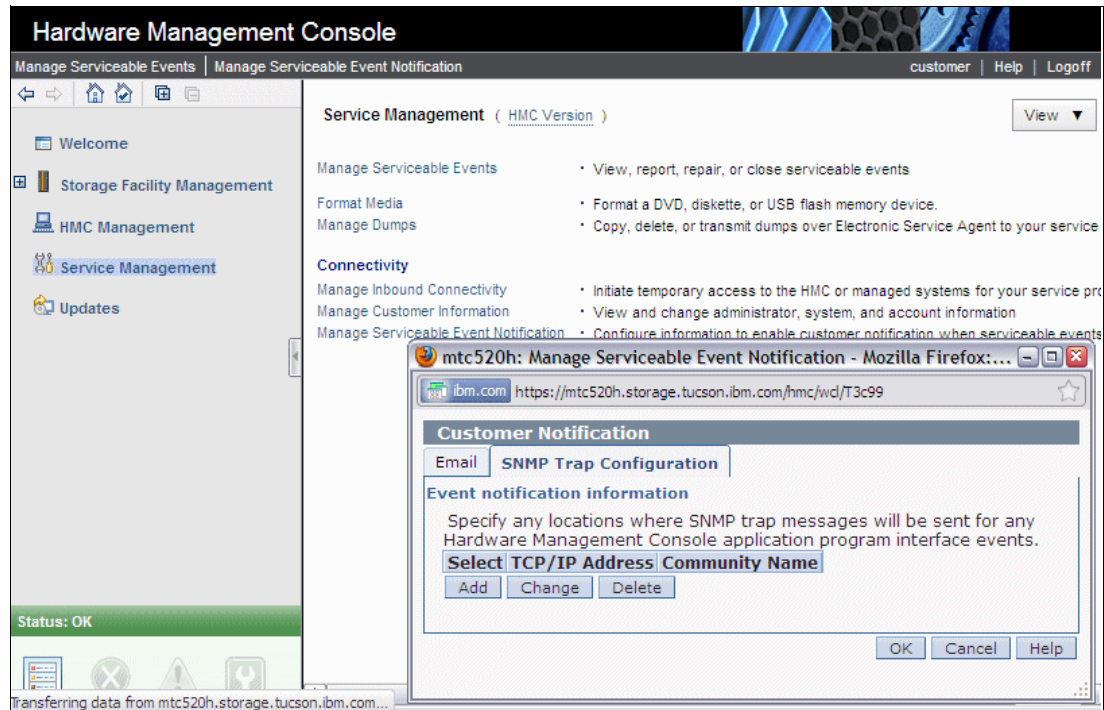

Figure 16-3 HMC Management Serviceable Event Notification
2. Select **Management Serviceable Event Notification** (Figure 16-3 on page 422) and insert TCP/IP information of SNMP server in the Trap Configuration folder.